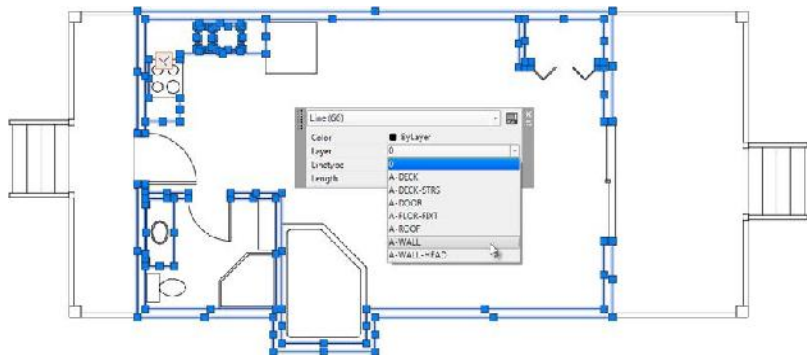

FIGURE 6.30: Using the Quick Properties panel to select the A-WALL layer after using the Select Similar command to select every line on layer 0
4. Use the Quick Properties panel to select the A-WALL layer (see Figure 6.30).